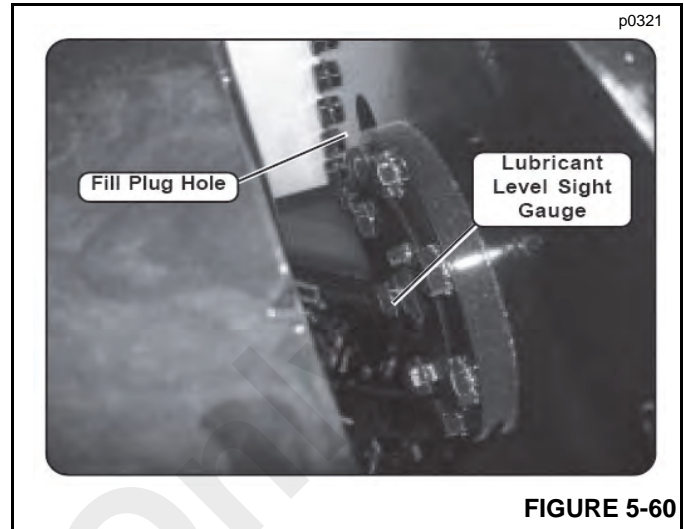

FIGURE 5-60
3. Clean the lubricant level sight gauge (Figure 5-60).